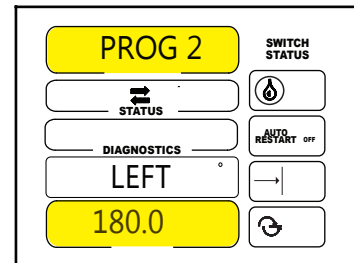

Figure 56-2
2. Set left angle of sector and the direction. See figure 56-2.